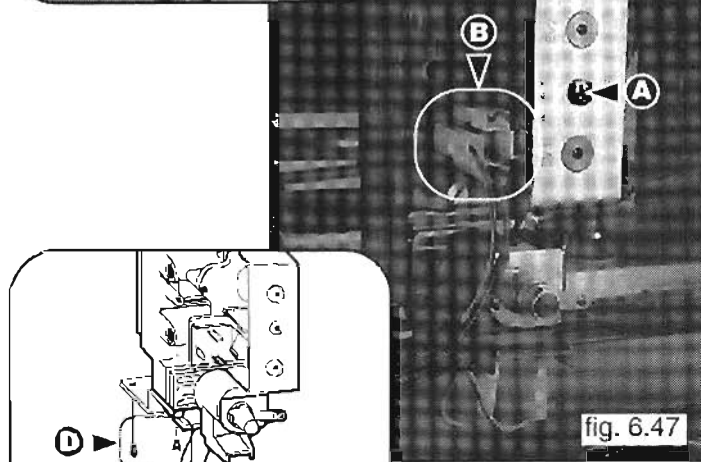

fig. 6.47
- 3 Disconnect the cables "B" ( see fig. 6.47 );
- 4 Unscrew the screw "A" and slide the TANDEM coils with its housing from the valve ( see fig. 6.47 );
- 3 Disconnect all the cables "B" ( see fig. 6.47 );